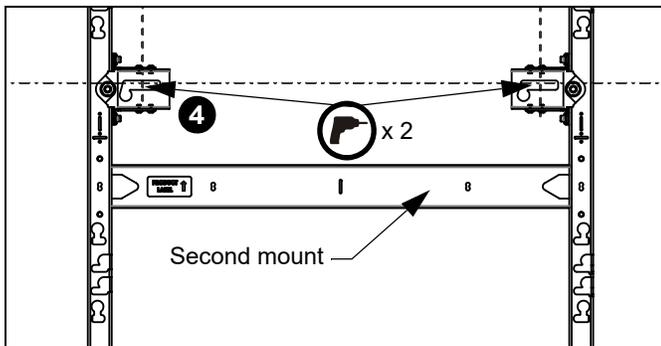

Figure 14
4. Drill pilot hole towards top and in centerline of upper mounting slot of second mount closest to installed mount (see Table 1 for size) and follow fastener information (appropriate for wall type) located in Table 1. (See Figure 14)